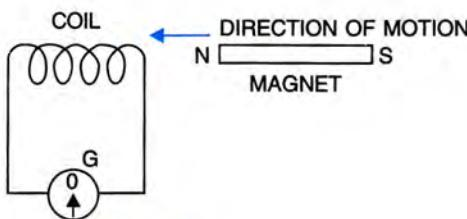

Fig. 10.44
**16.** The diagram in Fig. 10.44 shows a fixed coil of several turns connected to a centre zero galvanometer G and a magnet NS which can move in the direction shown in the diagram.